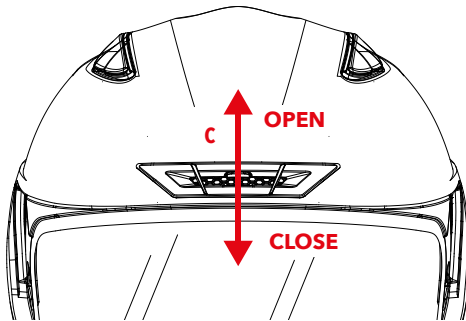

FIGURE 7
**FRONT AIR INTAKE – C – Figure 7**
- Figure 7: Slide down the central cursor to close the air intake, slide up to open it